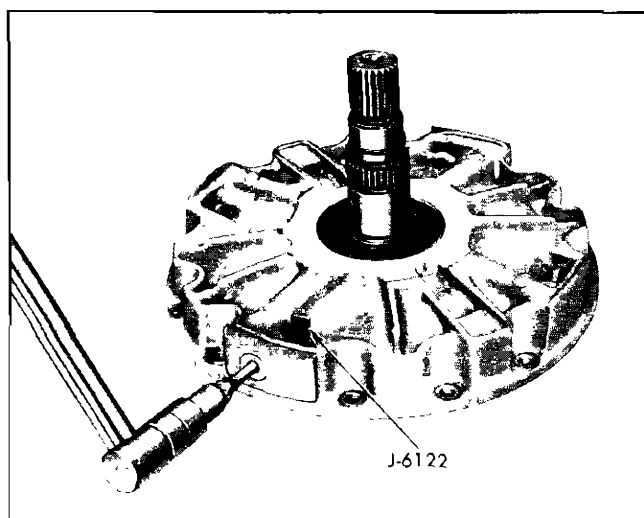

Fig. 79 Installing Exhaust Valve Covers
2. Install exhaust valve retaining tool J-6122 (Fig. 79).